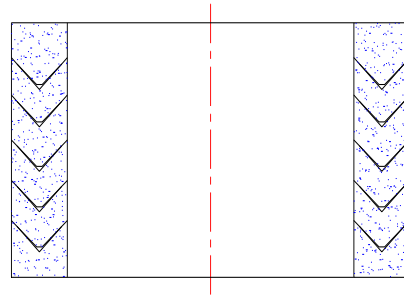

Fig. 19
- For vacuum applications use configuration as shown in Fig.19.